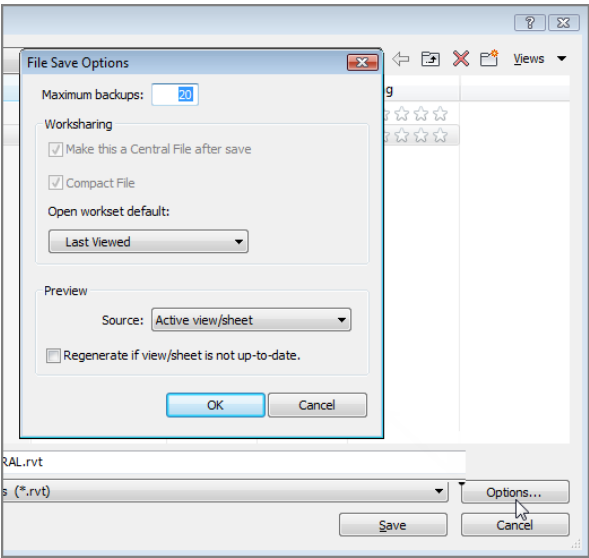

FIGURE 22.6: Modifying the settings before you save the file
3. In the File Save Options dialog box, change Maximum Backups to 1 (see Figure 22.6).